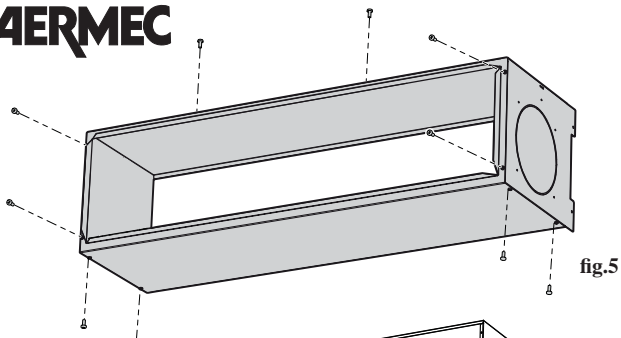

fig.5
- Remove the ten screws of the RPM_V accessory (fig.5).